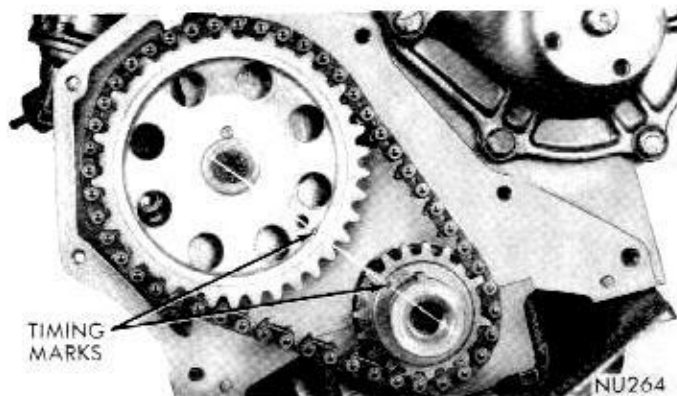

Fig. 20—Alignment of Timing Marks
(9) Line up timing marks on the sprockets with the centerline of crankshaft and camshaft (Fig. 20).
(10) Tighten camshaft sprocket lock bolt to 35 foot-pounds. Slide the crankshaft oil slinger over shaft and up against sprocket (flange away from sprocket).